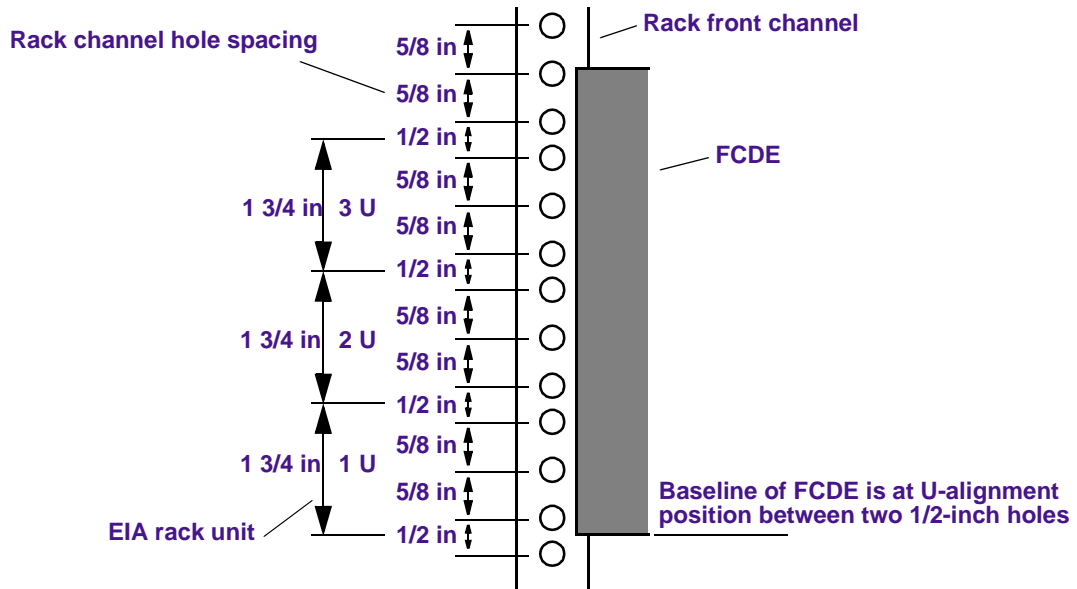

Figure 1-3 Locating the FCDE Rails
2. Select the lowest position in the rack where you can mount the FCDE. The FCDE uses 3.5 U (EIA rack units), or 6 1/8 inches of rack space. Position the FCDE support rails so that the bottom of each rail is at the baseline of a U-alignment position (see Figure 1-3).